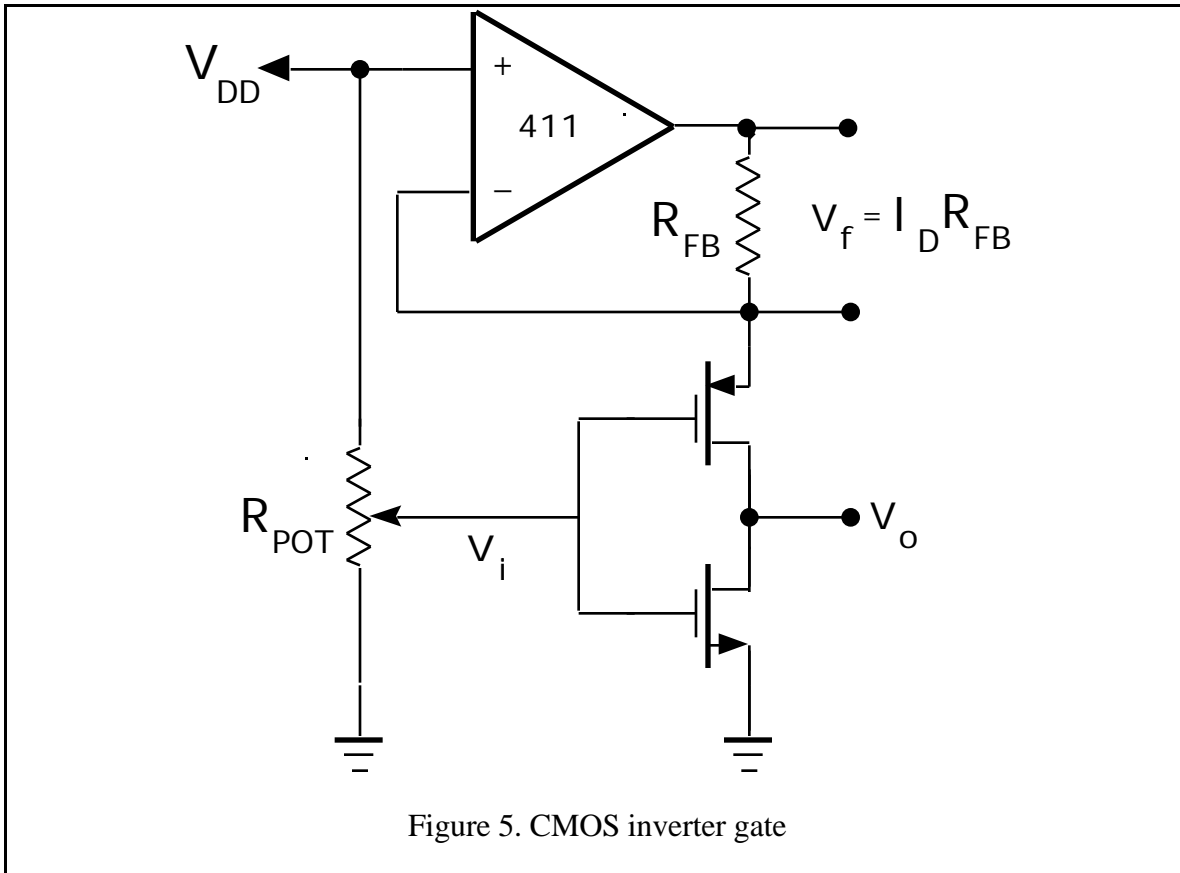

Figure 5. CMOS inverter gate
- a) Using one of the complementary pairs of enhancement mode MOS transistors on the 4007 chip, assemble the circuit as shown in Figure 5 above. Ensure that both substrate pins (*i.e.*, 7 and 14) are connected appropriately (*viz.*, pin 14 to  $V_{DD}$  and pin 7 to  $V_{SS} = \text{Gnd}$ ). All other pins may be left floating. Use some convenient potentiometer value – say,  $R_{POT} = 10\text{k}$  – and the feedback resistor  $R_{FB} = 1\text{k}$ .